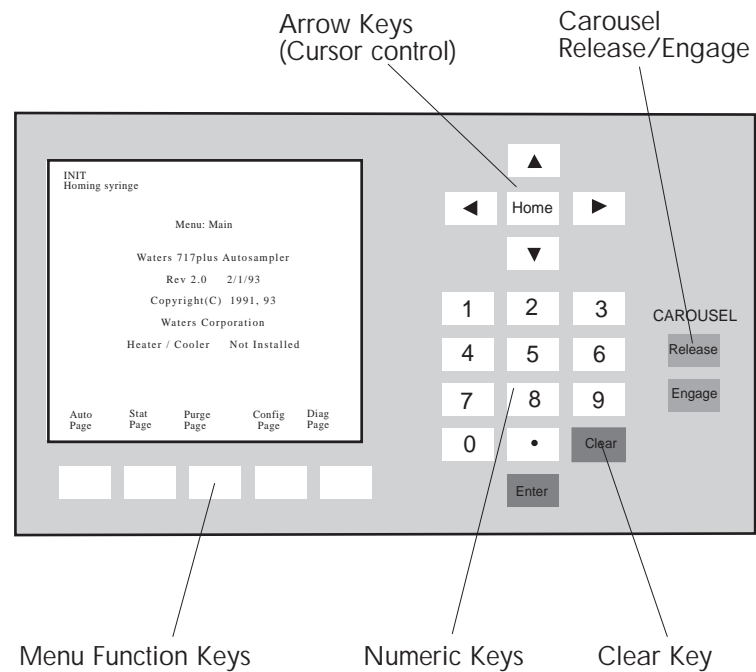

Figure 3-3 Front Panel
- If the screen appears blue in color, press the Display Contrast **Up arrow** (see Figure 3-3) until the screen text is in focus.
- If the screen appears white in color, press the Display Contrast **Down arrow** (see Figure 3-3) until the screen text is in focus.
Use the front panel (Figure 3-3) to configure the 717plus system and perform injection programming.